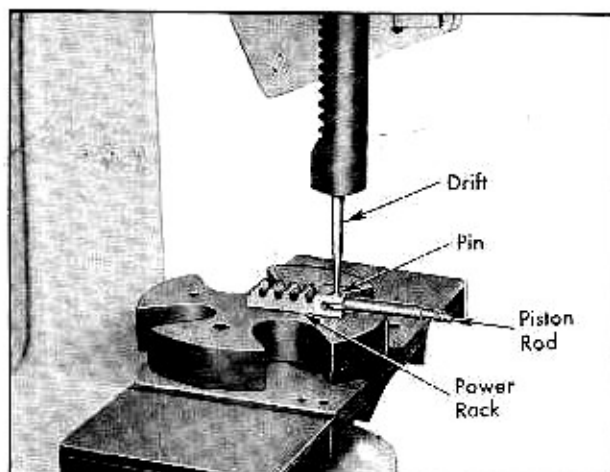

Fig. 7-27 Removing Power Rack Pin
6. Press out power rack to piston rod pin with an arbor press. (Do not nick or score machined surfaces on the power rack). Fig. 7-27.